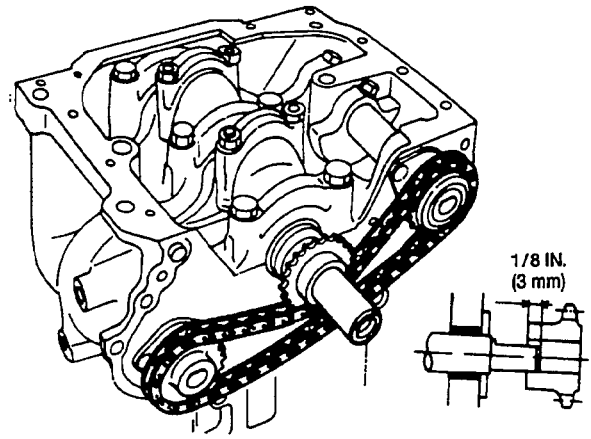

FIGURE 9-40. CHAIN AND SPROCKET ASSEMBLY
5. With mating marks aligned, fit the crankshaft sprocket about 1/8 inch (3 mm) deep onto their shaft ends (Figure 9-40).